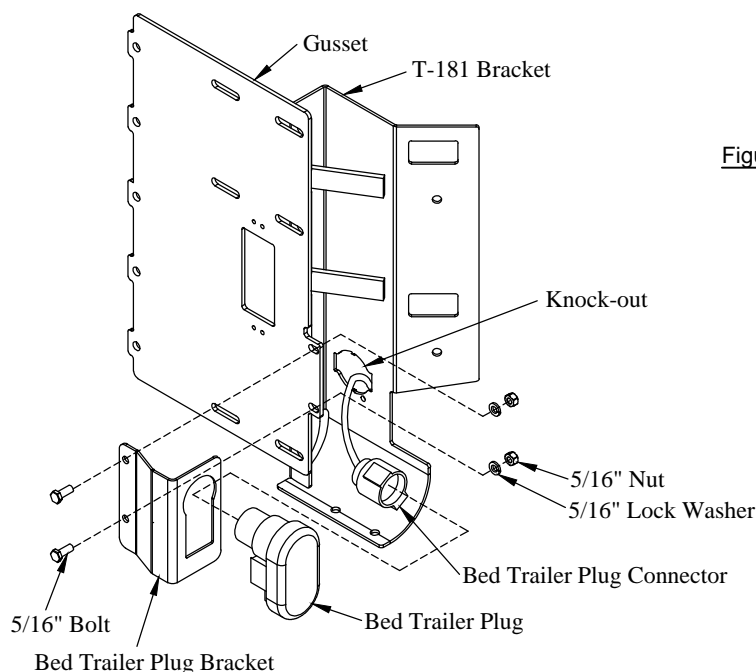

Figure 18: Bed trailer plug bracket.
24. **Install** the bed trailer plug into the bracket (Figure 18).
26. **Install** the bed trailer plug bracket on the driver side gusset (Figure 18). Use the provided two (2) 5/16 bolts, lock washers and nuts.